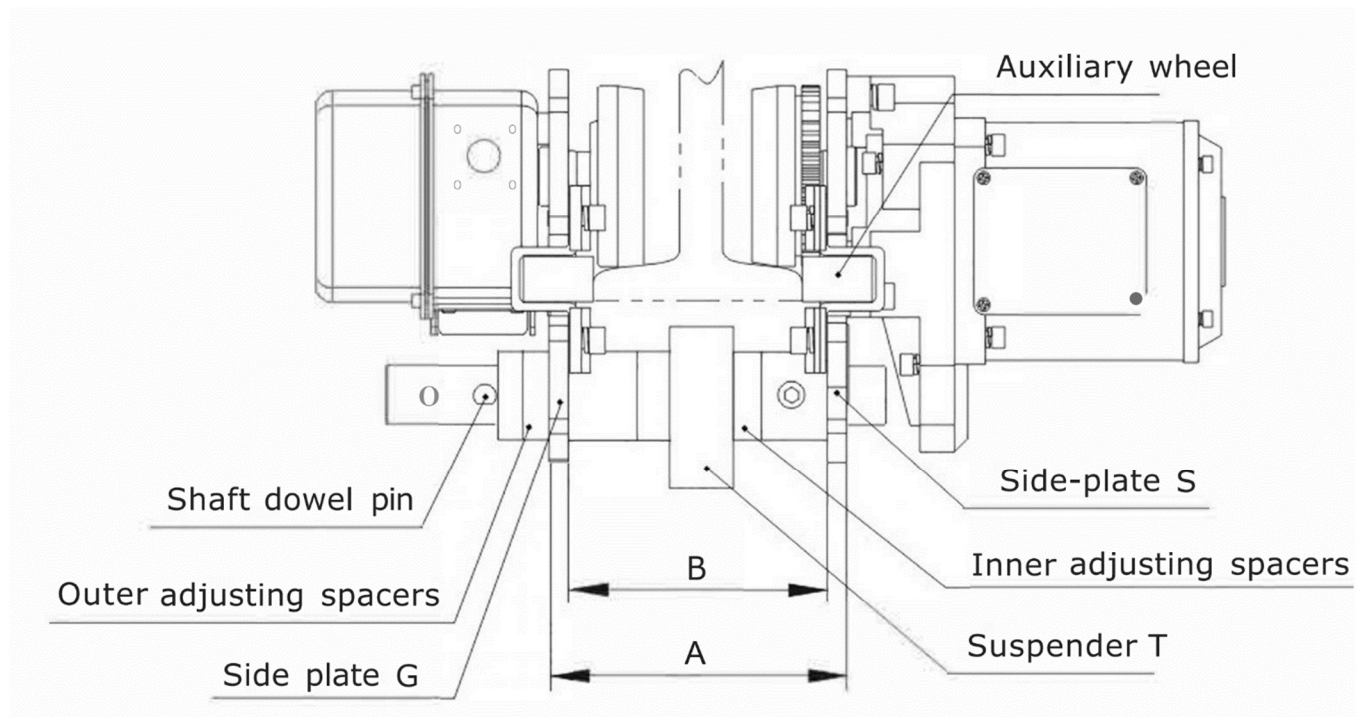

Fig 4.7
2.) Trolley width adjustment (fig4.7)